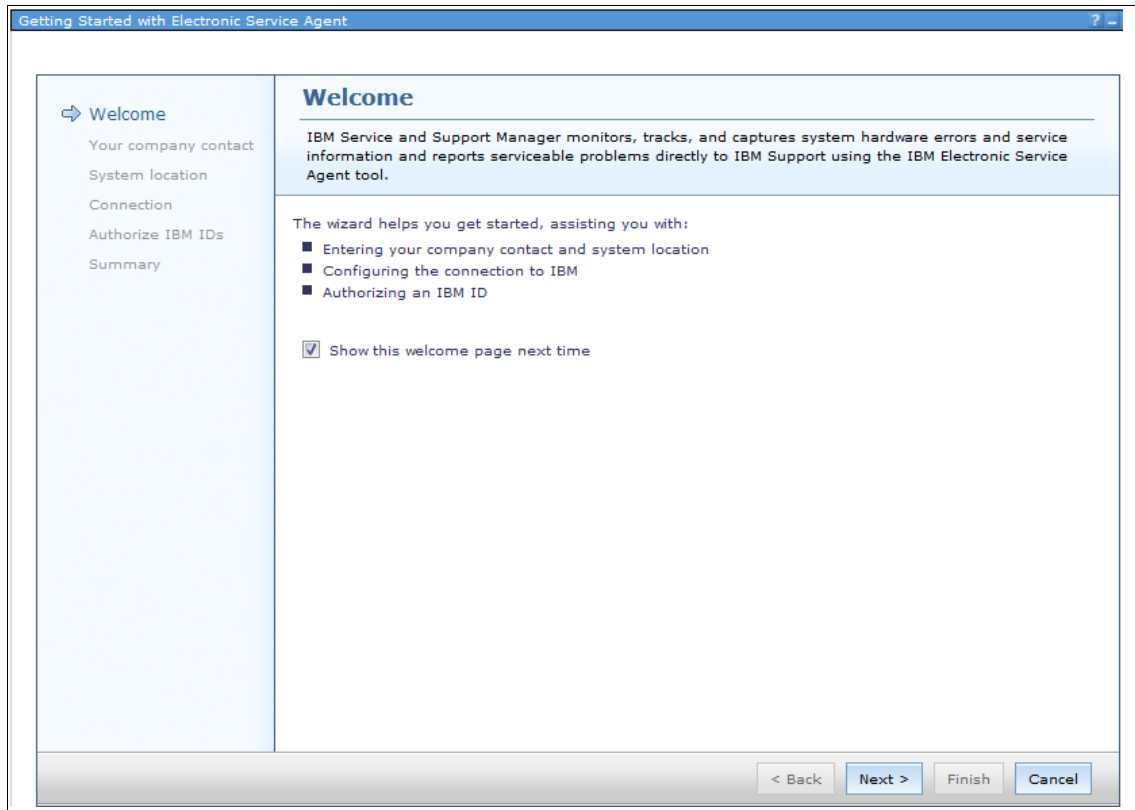

Figure 7-74 Getting Started with ESA wizard Welcome window
2. Click **Getting Started with Electronic Service Agent** under Setup and Configuration. The agent configuration wizard starts, as shown in Figure 7-74.